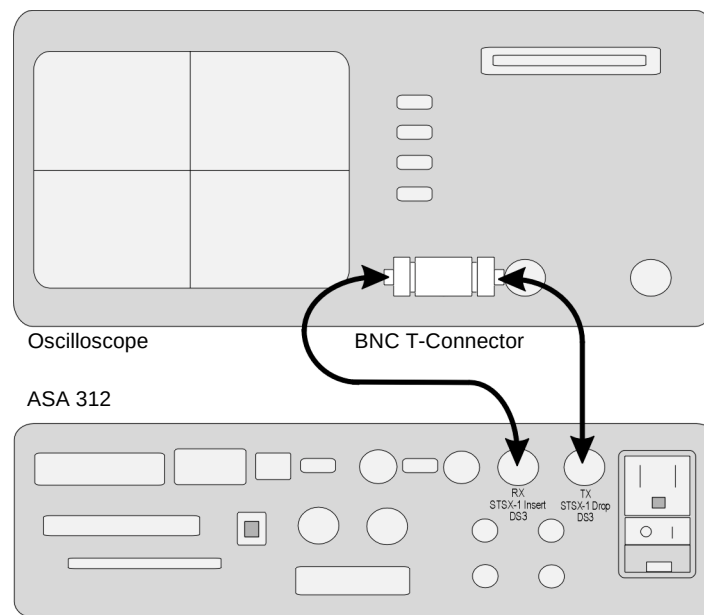

Figure 3-1. DS3 Terminated Setup
The following describes how to attach cables to the measuring devices and how to configure these devices for DS3 Terminated calibration (refer to Figure 3-1).
3. Attach one end of a 75 ohm BNC coaxial cable to the BNC T-connector and the other end of the BNC cable to the ASA 312's DS3 TX BNC connector. (Refer to Figure 3-1.)